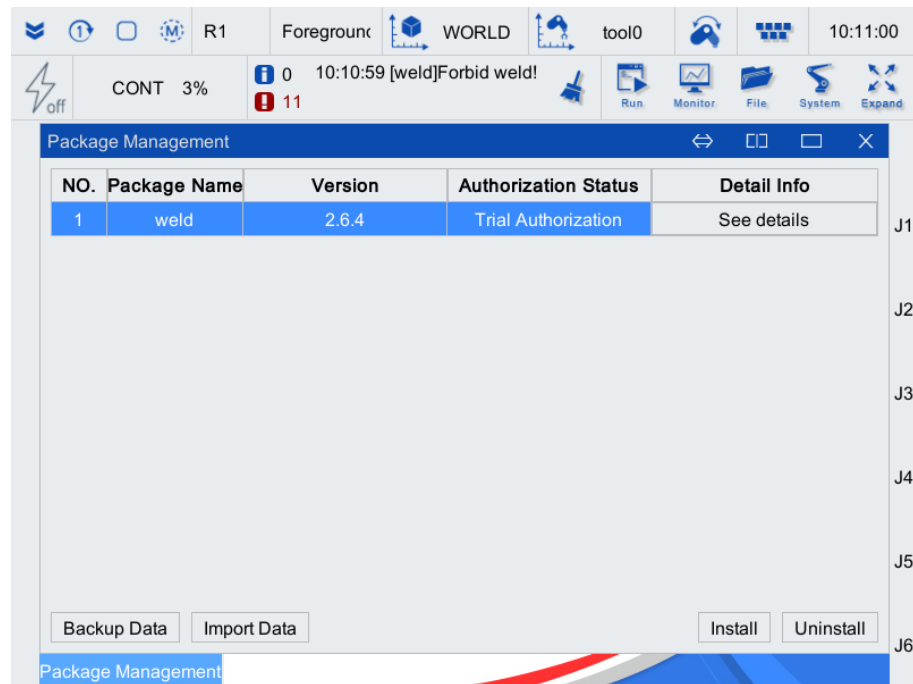

Figure 4-8 "Feature Pack Management" box
Step2. Click "Feature Pack Management" to pop up the feature pack management interface, as shown in Figure 4-8.